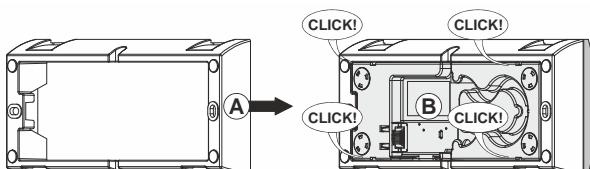

Fig. 6. Clicking sub-base into place
4. Click the sub-base into place (see Fig. 6).